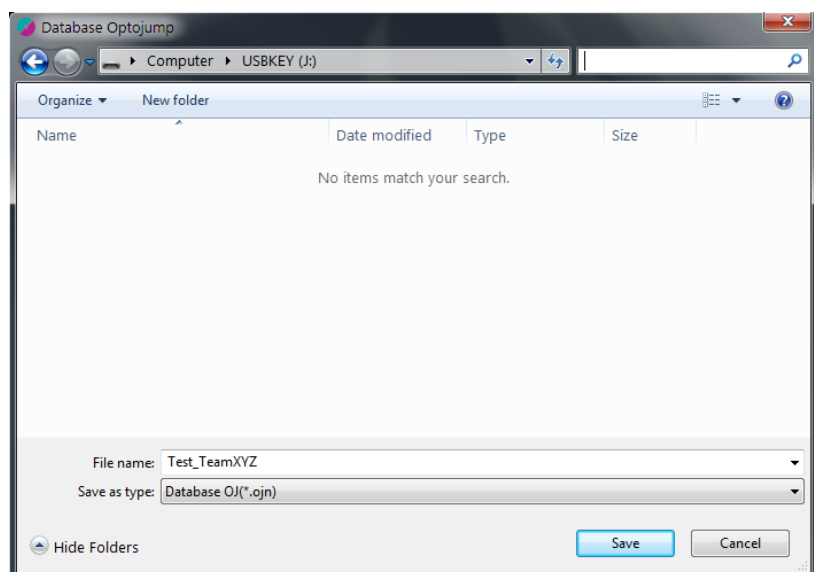

Figure 78 - Saving the OJN file
- **Speed [m/s or ft/s]:** Average speed of a single step (see Fig. 78)